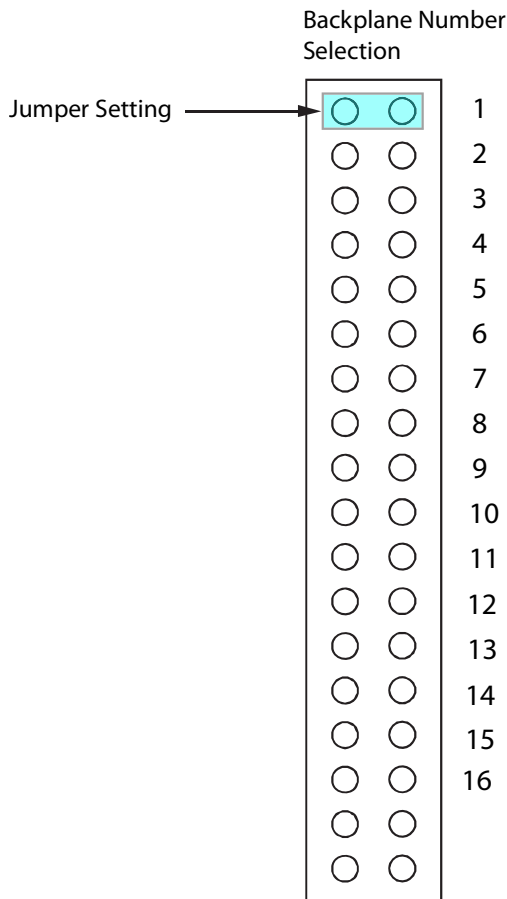

Figure 26. Backplane Number Section
2. Using a jumper, set the backplane number across the Backplane Number Selection pins as shown in Figure 26.